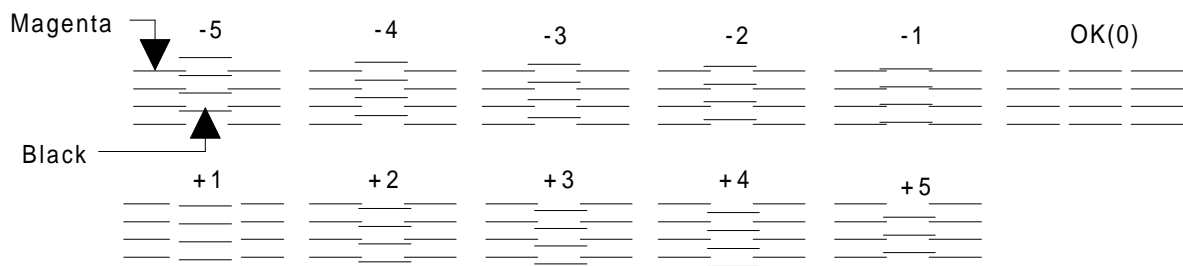

Figure 4-14. Linear Spacer Selection Sample
5. In Figure 4-14, the vertical position is correct when both the magenta line and the black line are aligned (as shown in position **OK (0)**). If the vertical position is correct, turn off the printer. If the black and magenta lines are not aligned, perform the vertical adjustment as described in steps 6-10.